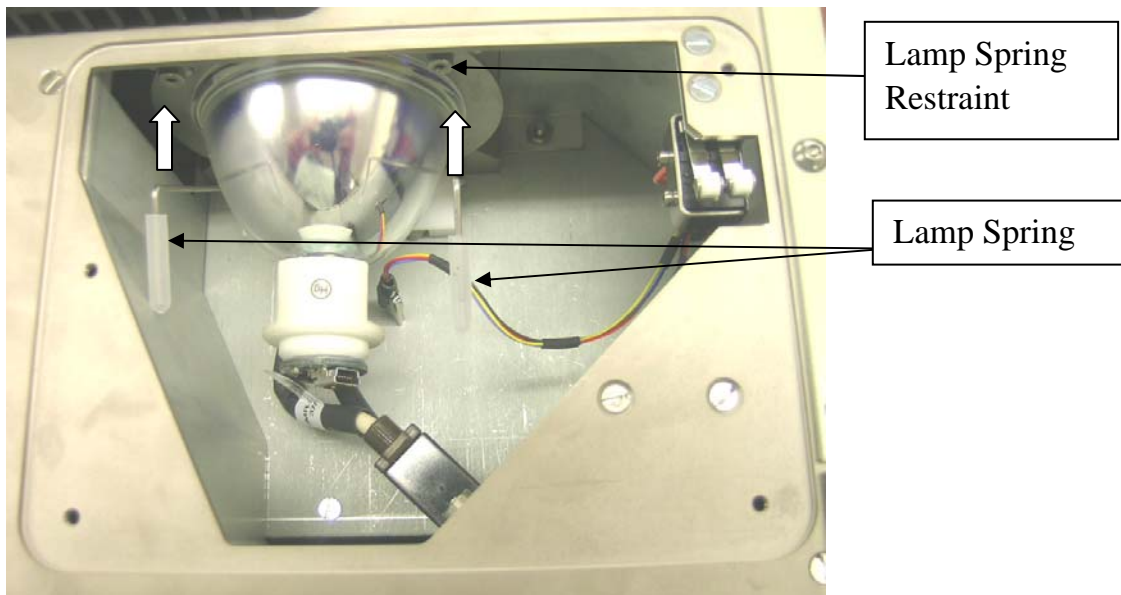

Figure 4.1e: Top section of the bulb clamp being pulled up with two fingers.
7. Lift the spring towards the bulb, as you do so the bulb will be pushed into the correct position, click the springs all the way into the Lamp Spring Restraints. (see Figure 4.1e).